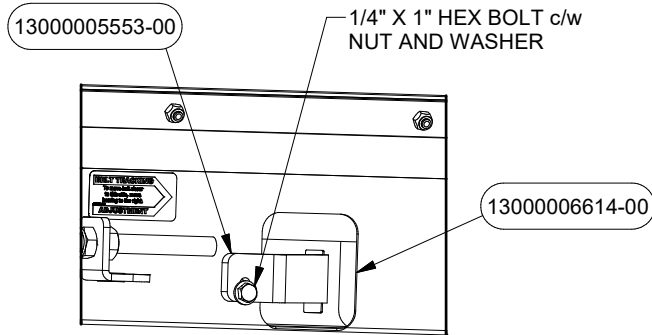

FIGURE 5
11. Attach the Scraper PN# 5553 to the SW Body PN# 6614. Insert the other end in to a Rectangular Hole then fasten it using Hex Bolt c/w Nuts and Washer (see Figure 5). Fasteners can be found in Bolt Bag PN# 6794.